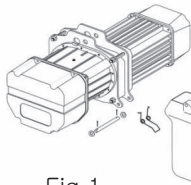
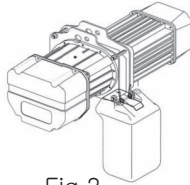

Fig.1
Fig.2
* Please do it like picture and fig.1 & fig.2
Please lubricate to chain in order to improve smooth chain running and to protect disorder or trouble in advance (Fig 2).